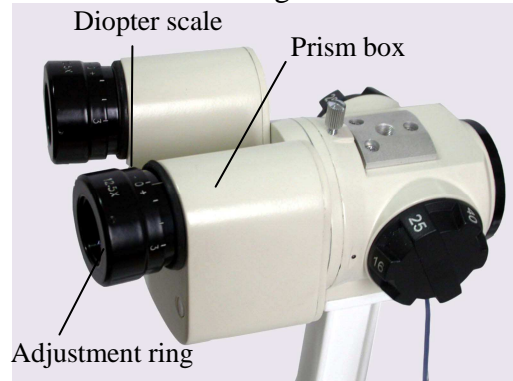

Fig.14
- ✧ First, rotate the diopter adjustment ring counter clockwise down to the end (Fig.14).